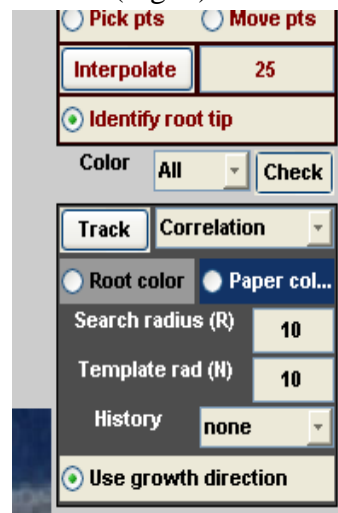

Figure 8
16. Now we are ready for tracking the marker points on all the frames. Click “Track” to start tracking (Fig. 8).
Note, by default tracking uses “correlation” method. By default, search radius (R) and Template (N) will be 10. No History will be used either by default, so History will be set to “none”. But you can change each of these options. For detailed explanation please refer to the paper by Basu et al., 2007. By default, the button “use growth direction” will also be on (Fig. 8) which means that KineRoot will search for new points by using prediction of velocity. Note, if you want to use color weighted correlation, you have to choose the root and paper color by clicking the appropriate buttons, and then selecting areas on the root and the germination paper respectively.
18. The button ‘App. Midline’ is on, by default which indicates an approximate midline by using a least square polynomial through the tracked points. But if you need to measure root curvature and root diameter, then you need to click “Edge Det.” button for edge detection. Once this button is on, all other edge detection options will be activated. (Fig. 9). Since edge detection is based on contrast, the color which gives you the best contrast should be chosen. For the example image red color gives the best contrast. Use the color pull down menu (Fig. 8) to choose the color. Click “Check” button to see a gray scale representation of contrast for that color. Clicking “Check” button once more will bring back the original image. For the example image, choose “Red”.